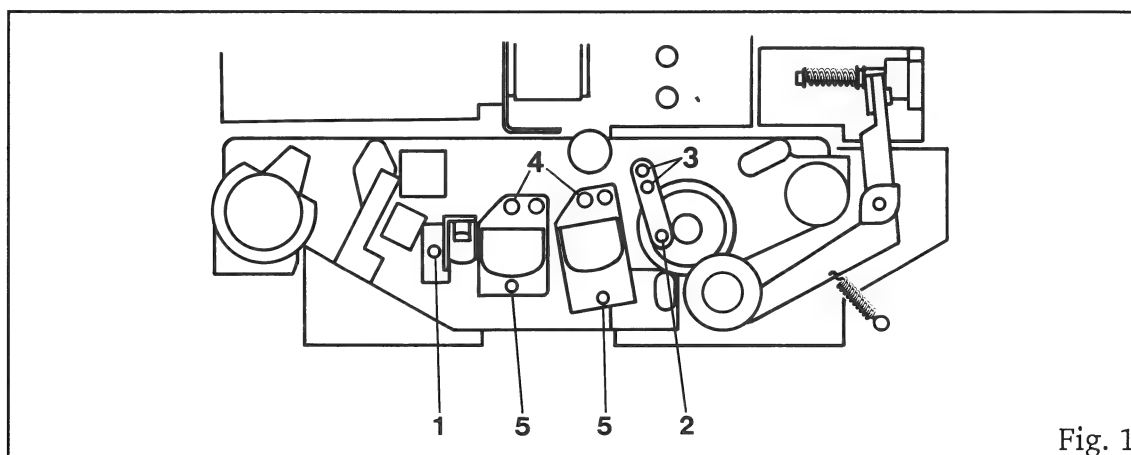

Fig. 1
- The height can be corrected with the screws [4, 5] (Fig. 1).